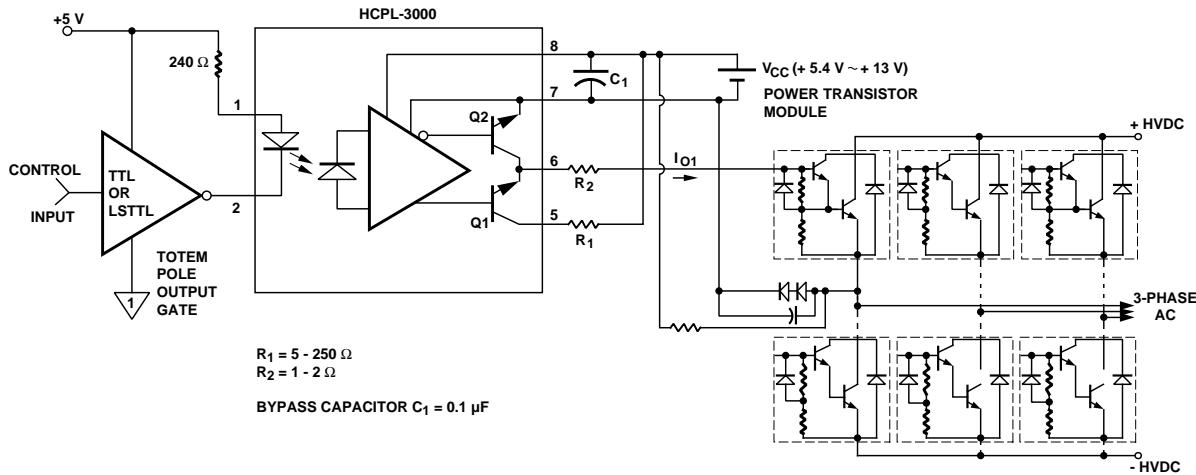

Figure 1. Recommended Output Transistor Protection and Typical Application Circuit.
THE USE OF A 0.1 $\mu$ F BYPASS CAPACITOR CONNECTED BETWEEN PINS 8 AND 7 IS RECOMMENDED. ALSO, CURRENT LIMITING RESISTORS ARE RECOMMENDED (SEE FIGURE 1, NOTE 2, AND NOTE 7).
amounts of current. Figure 1 describes a recommended circuit design showing current limiting resistors R1 and R2 which are necessary in order to prevent
7.  $R_1$  sets the base current ( $I_{O1}$  in Figure 1) supplied to the power bipolar device.  $R_2$  limits the peak current seen by Q2 when the device is turning off. For more applications and circuit design information see Application Note "Power Transistor Gate/Base Drive Optocouplers."